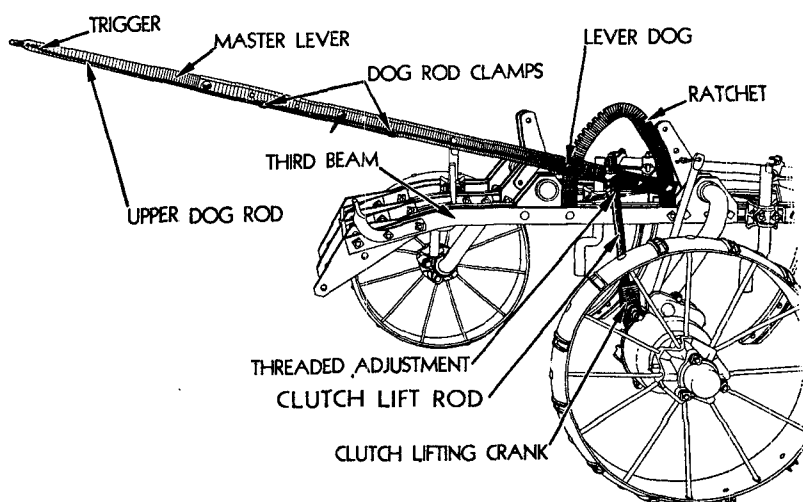

FIGURE 6—ATTACHING MASTER LEVER
5. **MASTER LEVER.**—Bolt master lever and ratchet to position on third beam. (Figure 6.) Attach clutch lifting rod to master lever and clutch lifting crank. Note: As shipped, lock washers are placed between upper and lower parts of levers. The bolts which hold the parts together should be removed, levers placed in desired length, lock washers placed *underneath* the nuts on bolts. When bolting dog rods together, be sure dog fits into notch on ratchet. Pull upper dog rod and lever trigger down and tighten bolts on dog rod clamps.